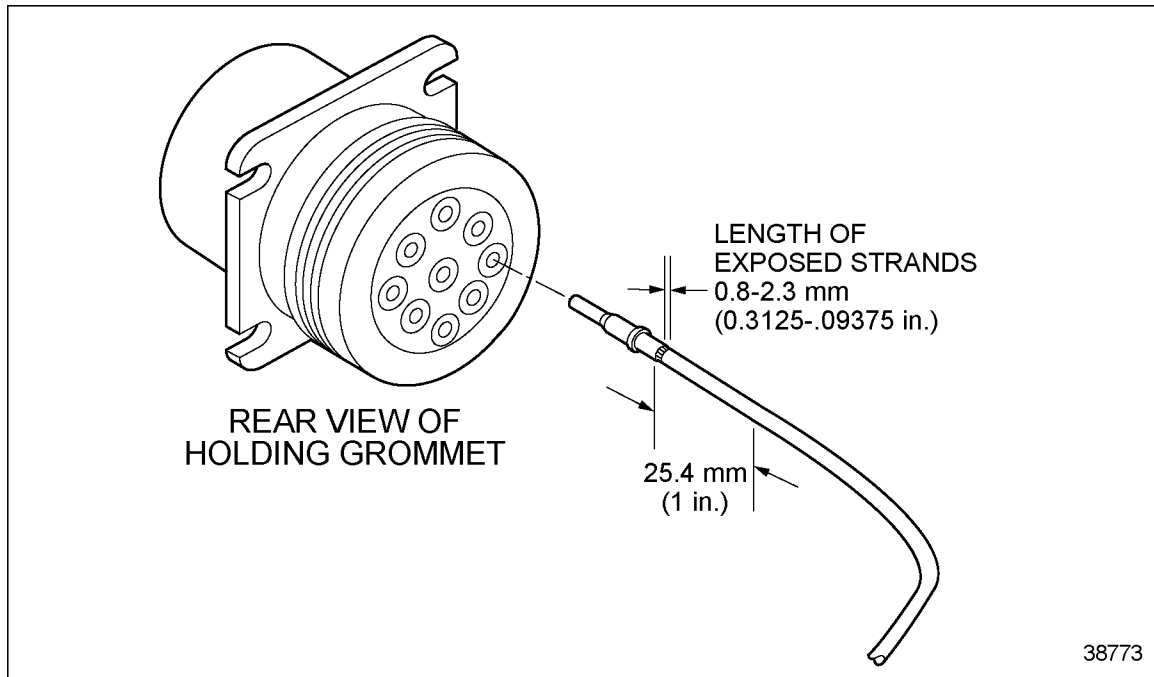
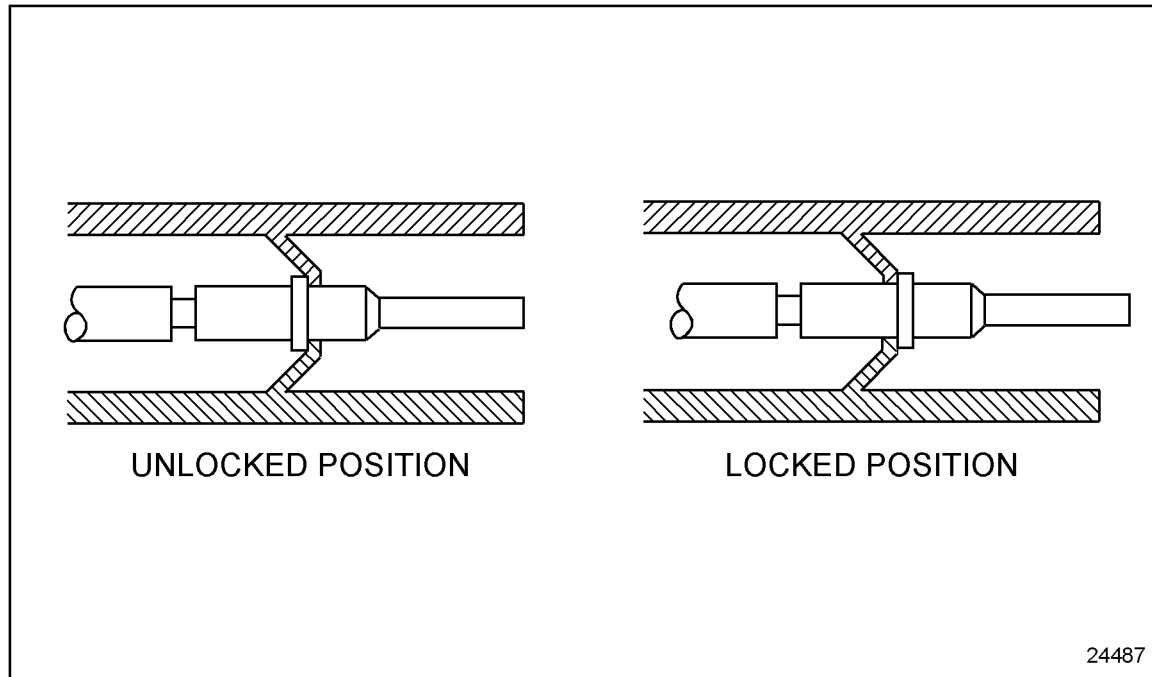

Figure 2-18 **Pushing Contact into Grommet**
Figure 2-19 Locking Terminal into Connector
5. Grasp the contact approximately 25 mm (1 in.) behind the contact crimp barrel. Hold the connector with the rear grommet facing you. See Figure 2-18.
6. Push the contact into the grommet until a positive stop is felt. See Figure 2-18. A slight tug will confirm that it is properly locked into place. See Figure 2-19.